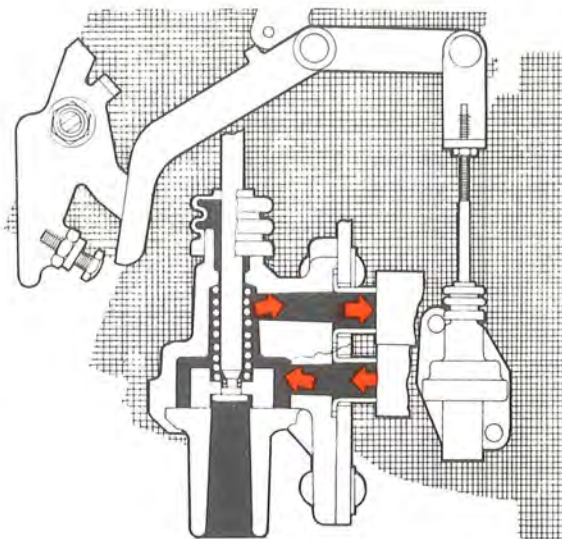

Fig. 2-65. Hot start valve, function, driving
control rod (16). The connection between the float-chamber and air cleaner is closed and fuel fumes are led directly out into the atmosphere through the outlet (12). (On vehicles fitted with an anti-fume device, the fumes are led from the outlet (12) to the venting filter.) When the accelerator pedal is depressed (See Fig. 2-65), the lever (1) releases the valve control (2) and the piston (14) is pressed by the spring (15) against its lower position. The outlet (12) is shut off, the fuel fumes are led into the air cleaner, and when the engine starts running, further through the carburettor and into the engine combustion chambers.